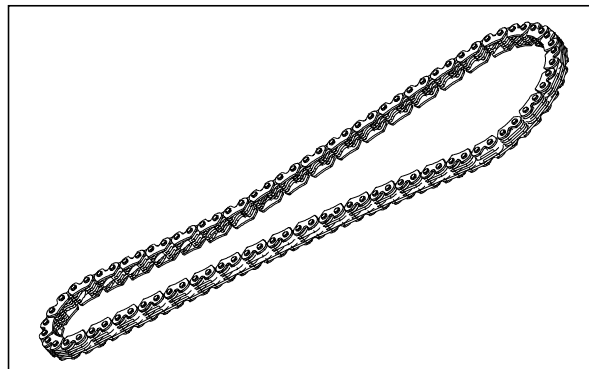

Fig. 3.74
- Visually inspect the cam chain for loose pins, twist / seized links etc. If found any replace the cam chain with a new one. (Fig. 3.74)